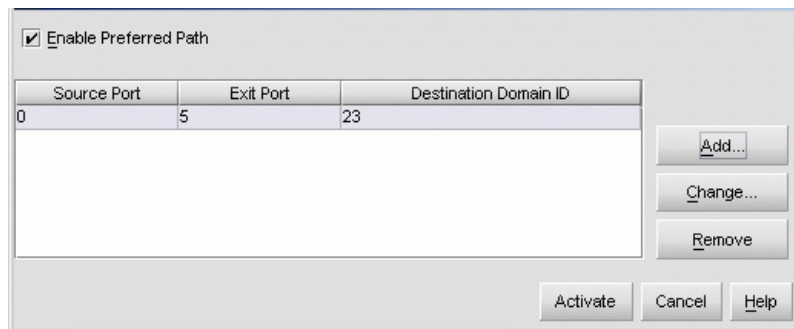

Figure 20: Configure Preferred Paths dialog box
2. At the Hardware View, choose **Configure > Preferred Path**. The Configure Preferred Paths dialog box displays (Figure 20).